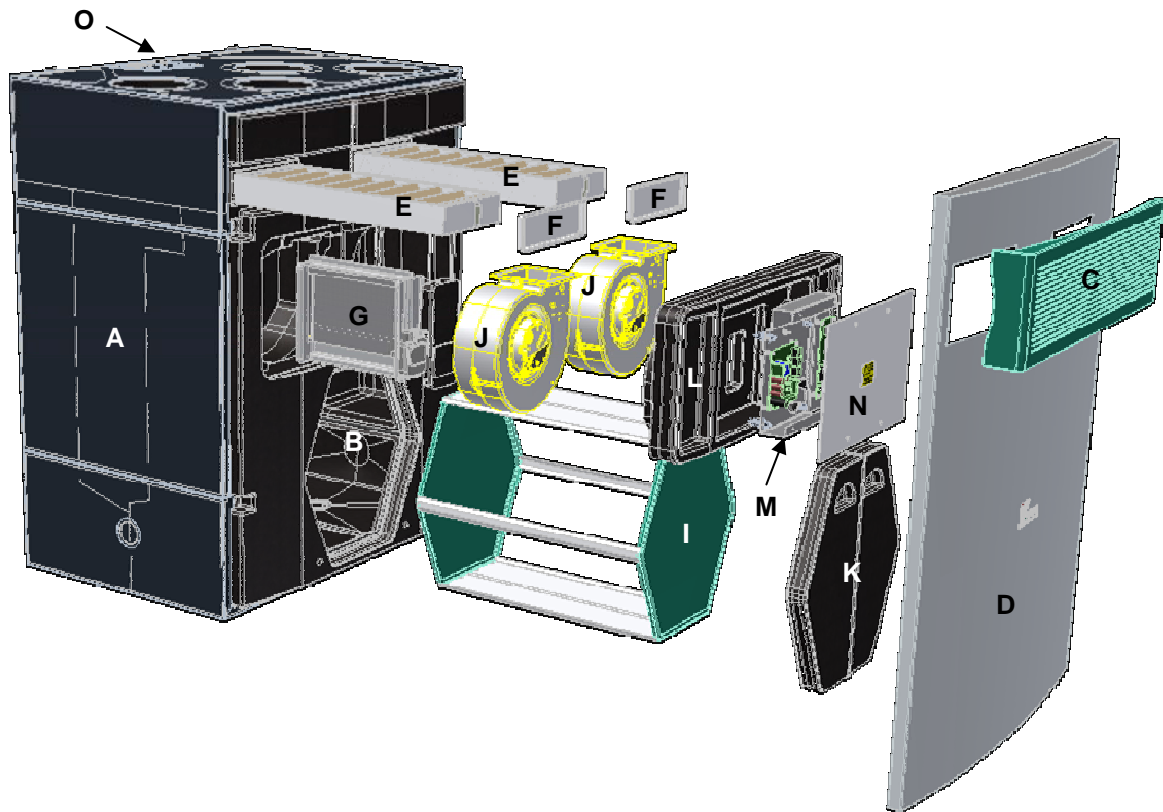
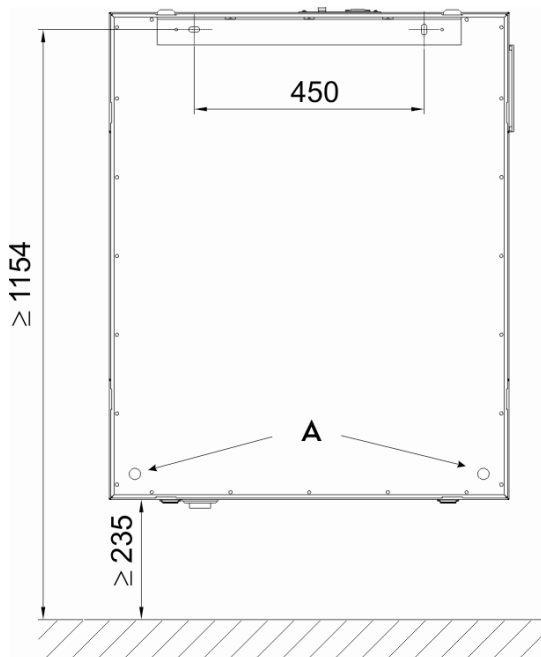

Figure 15: Exploded view of the main components
Figure 16: Vertical wall mounting
- Glue each piece of the enclosed, self-adhesive rubber buffer **A** in the bottom corner region on the rear panel of the device as shown in Figure 15 and Figure 16.